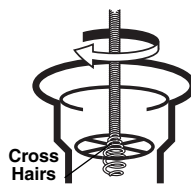

Figure 3
- For many drains, the cable can be threaded through the cross hairs in the drain (See *Figure 3*).